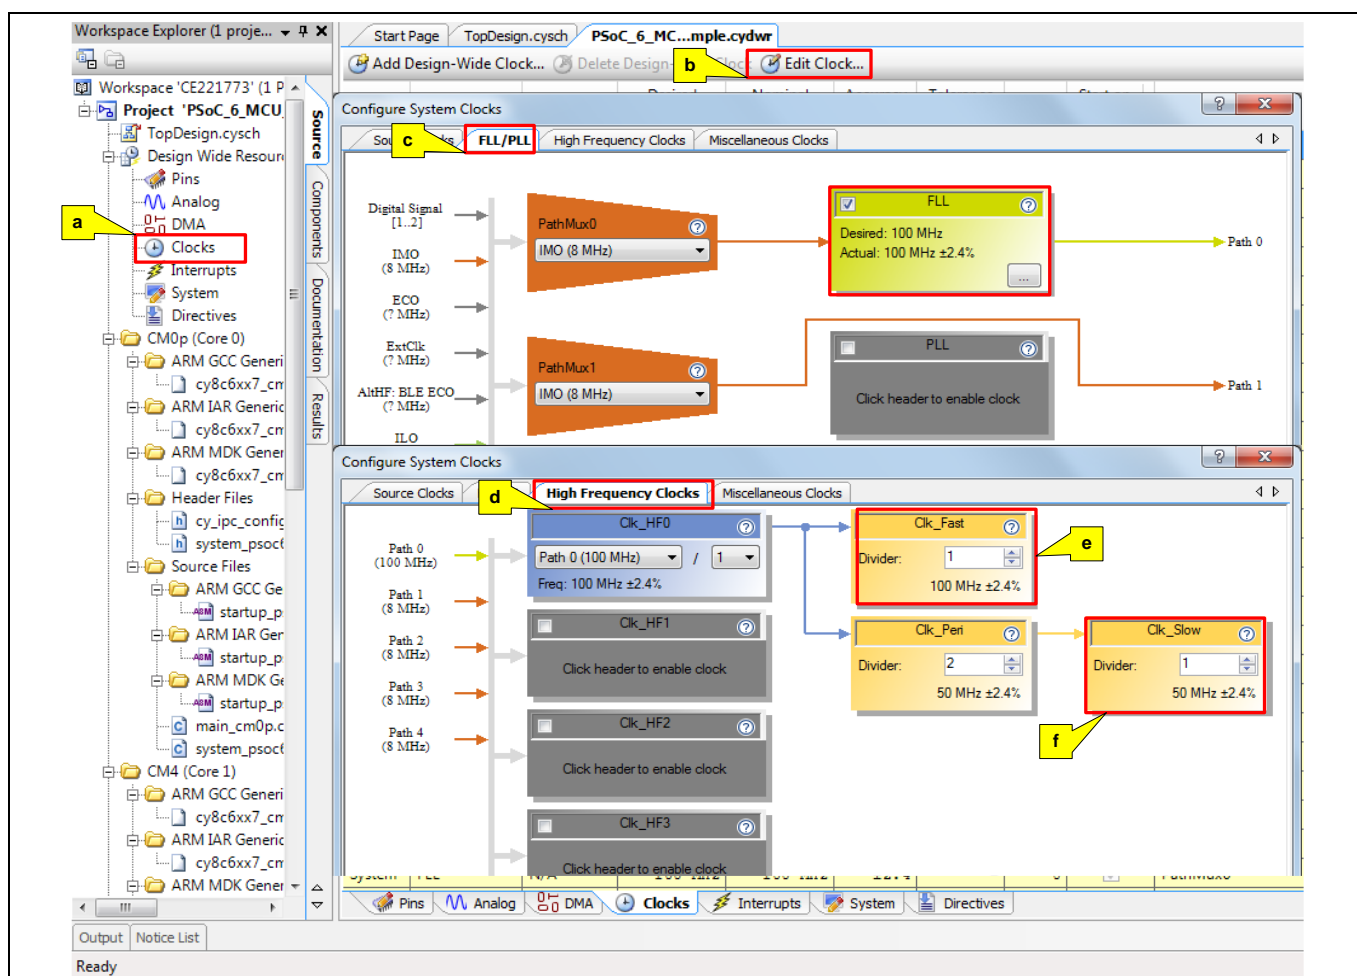

Figure 22 Clock Configuration
- You can set the CM0+ CPU clock by setting the divider in **Clk_Slow**. By default, the divider is set to 1. See Figure 22.